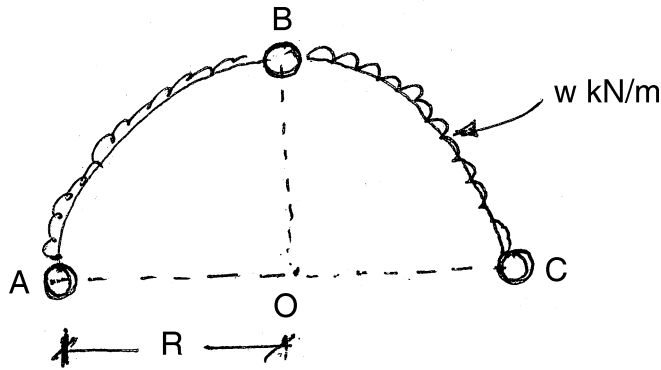

Fig. 3
2. A semicircular beam curved in plan is supported on 3 columns as shown in Fig. 3. Draw SFD, BMD and TMD if beam is subjected to udl of 'w' throughout its circumference. 12